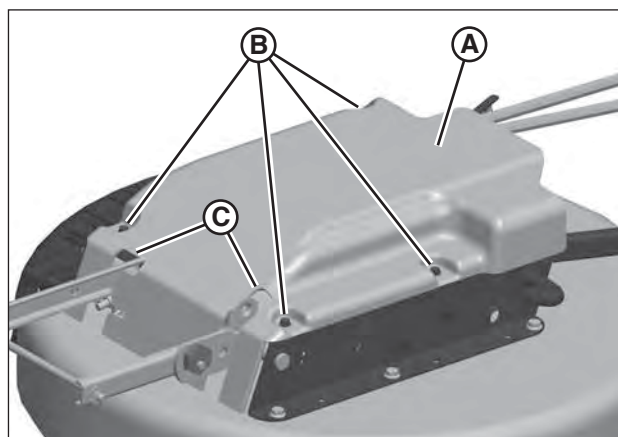

Figure 43: Removing the deck cover (deck removed from unit for clarity only)
2. Remove the four fasteners (B, Figure 43) securing the deck cover (A) to the mower deck. Remove the cover.
3. When replacing the cover, be sure that the lift arms and control cables are routed through the relief slots (C) in the cover. Secure the cover with the four fasteners removed in Step 2, tightening securely.